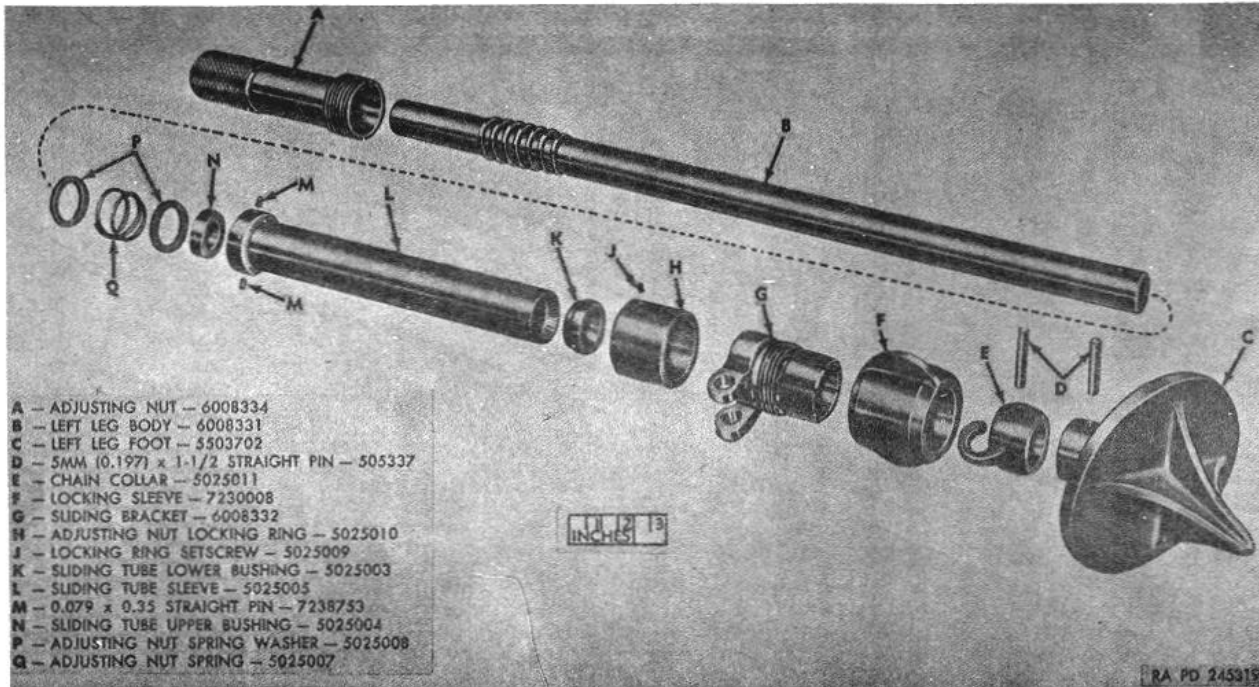
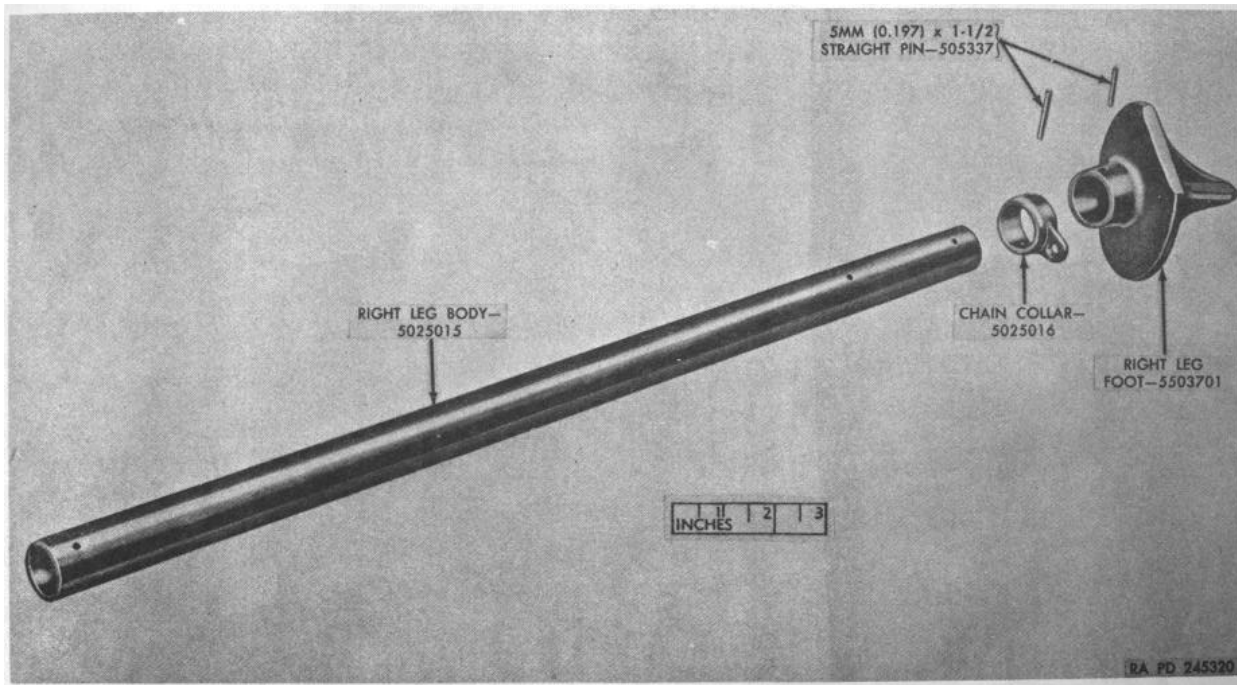

Figure 34. Left leg assembly 7250152-exploded view.
Figure 35. Right leg assembly 5207741-exploded view.
c. To disassemble left leg assembly, proceed as outlined in (1) through (4) below.
**The key letters shown in (1) through (4) below in parentheses refer to figure 34.**
- (1) Remove the locking ring setscrew (J) and unscrew the adjusting nut locking ring (H).
- (2) Unscrew adjusting nut (A) from leg body (B).
- (3) Drive out the straight pins (D) which secure the left leg foot (C) and chain collar (E); heat foot and collar until the solder is melted and slide them off the leg body.
- (4) Slide the locking sleeve (F), sliding bracket (G), adjusting nut locking ring (H), sliding tube sleeve (L) with lower and upper bushings (K and N), adjusting nut spring (Q), and adjusting nut spring washers (P) off the left leg body.
d. To disassemble the right leg assembly, drive out the straight pins which secure the right leg foot and chain collar, heat foot and collar until the solder is melted, and slide them off right leg body (fig. 35).
- a. To assemble right leg assembly (fig. 35), proceed as outlined in (1) and (2) below.
- (1) Assemble chain collar and right leg foot with new 5-mm (0.197) x 11/2 straight pins on right leg body and then solder.
- b. To assemble left leg assembly, proceed as outlined in (1) through (9) below.
**Note.** The key letters shown below in parentheses refer to figure 34.
- (1) Slide the following on the left leg body, in the order listed: adjusting nut spring washer (P), adjusting nut spring (Q), adjusting nut spring washer (P), sliding tube sleeve (L) with sliding tube lower and upper bushings (K and N) assembled and pinned (flanged end leading), adjusting nut locking ring (H) (larger opening leading), sliding bracket (G) (solid end leading), and locking sleeve (F) (threaded end leading).
- (2) Screw locking sleeve (F) on sliding bracket (G).
- (3) Slide chain collar (E) (open end of hook leading) on leg body. Drive in 5-mm (0.197) x 11/2 straight pin (D) through chain collar and leg body.
- (4) Slide left leg foot (C) on left leg body (B) (spike pointing same direction as chain hook on collar) and drive in 5-mm (0.197) x 11/2 straight pin (D) through foot and leg.
- (5) Solder chain collar (E) and left leg foot to left leg body.
- (6) Slide adjusting nut (A) (external threaded end leading) on left leg body. Screw adjusting nut into adjusting nut locking ring (H) and secure with locking ring setscrew (J).